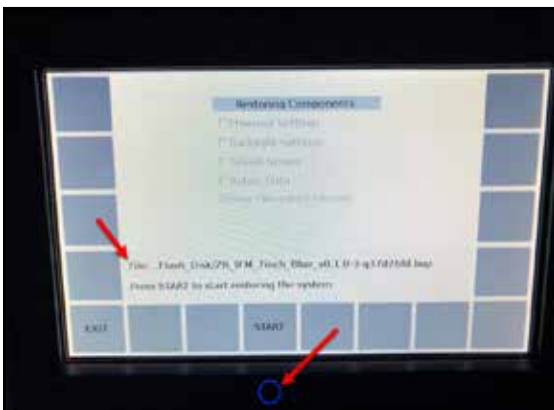

Figure 15
7. After a few seconds, the file loading screen will populate. This screen will show your file name that is compatible with your display. Press the “START” button to begin loading the software on to the display. See Figure 15.